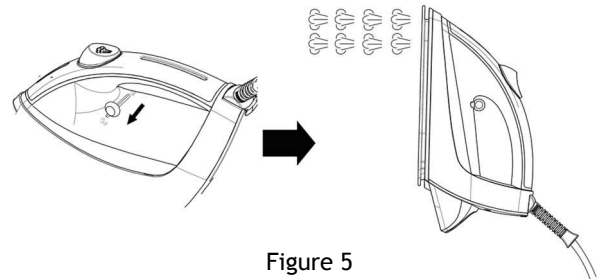

Figure 5
2. Steam boost setting: concentrate the steam at the front part of the soleplate for higher pressure of steam when removing stubborn creases (Figure 5).